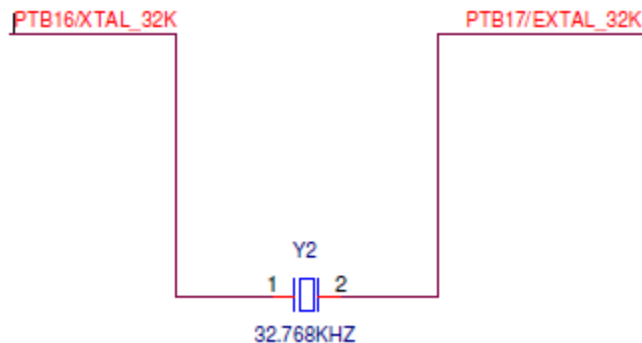

Figure 7. FRDM-KW36 32.786 kHz oscillator circuit
- 32.768 kHz crystal Y2 is provided (see Figure 7).